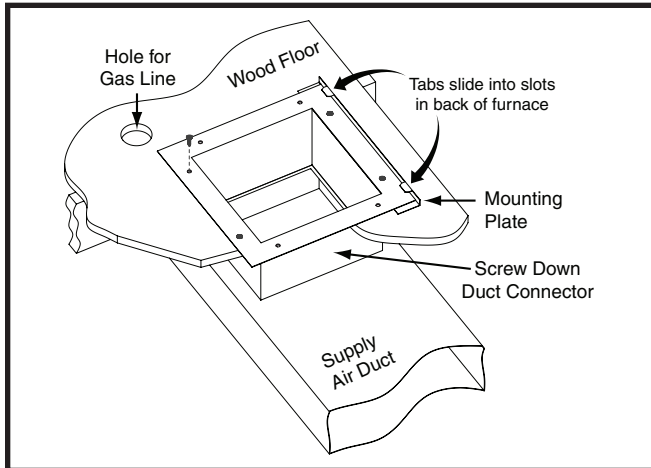

Figure 15. Screw-Down Duct Connector
1. Apply a bead of caulking, mastic, or other approved sealant around bottom side of 1/2" flange and restrictor plate (when applicable). See Figure 15